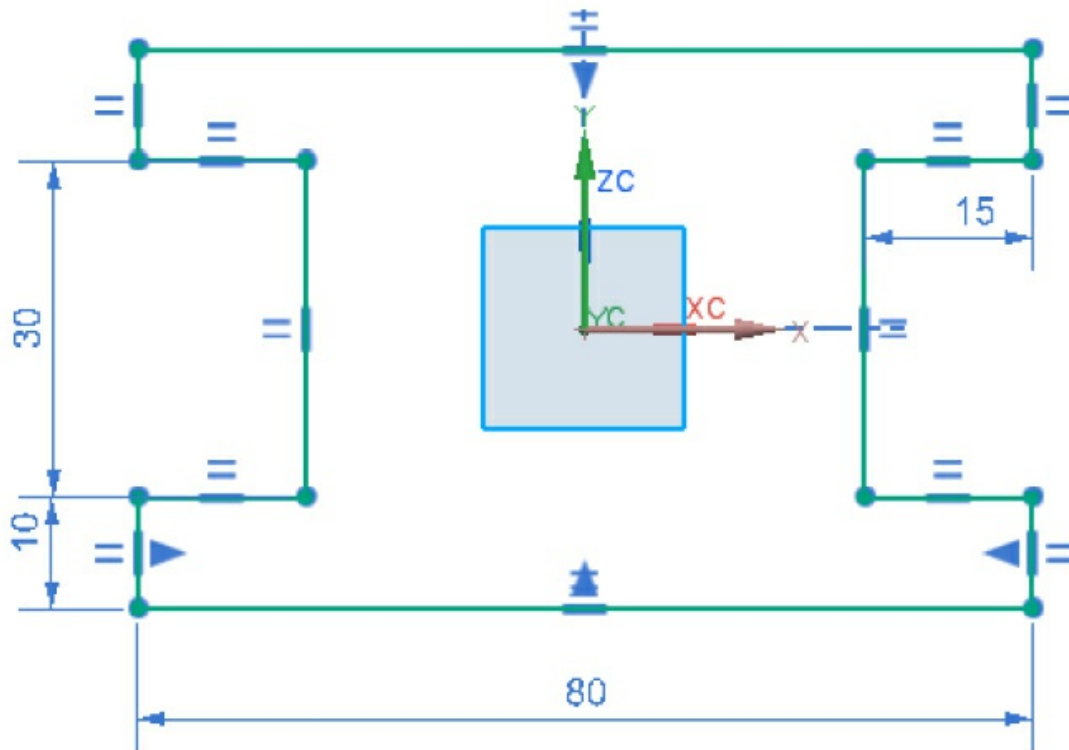

Figure 3-51 *The outer profile after adding the required dimensions*
2. Select line 1; the current dimension of line 1 is attached to the cursor. Now, you need to place the dimension at the required location. Click below the line 1 to place the dimension, refer to Figure 3-51. As you place the dimension, an edit box is displayed. Enter **80** in the edit box and press ENTER. Next, choose the **Fit** tool from the **Operation** group of the **View** tab.
6. Exit the **Rapid Dimension** tool by pressing the ESC key and then drag the dimensions to place them properly around the sketch, refer to Figure 3-51.